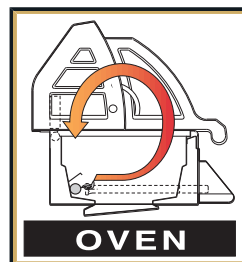

Fig. 15b
- The transverse, rear-mounted **Oven burner** is ideal for roasting or baking. Whole chickens, turkeys and other fowl; beef, lamb and pork roasts; fish and seafood; or vegetables and vegetarian dishes can be done to perfection with its gentle, wafting convection heat (see Fig. 15b).